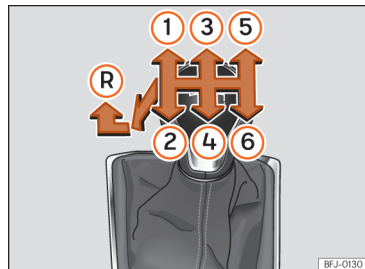

Fig. 122 Diagram of a 6-speed manual gearbox.
Gear positions are indicated on the gear lever »» Fig. 122.
- With the gear lever in neutral, push it down, move it all the way to the left and then forwards to select reverse gear »» Fig. 122 (R).